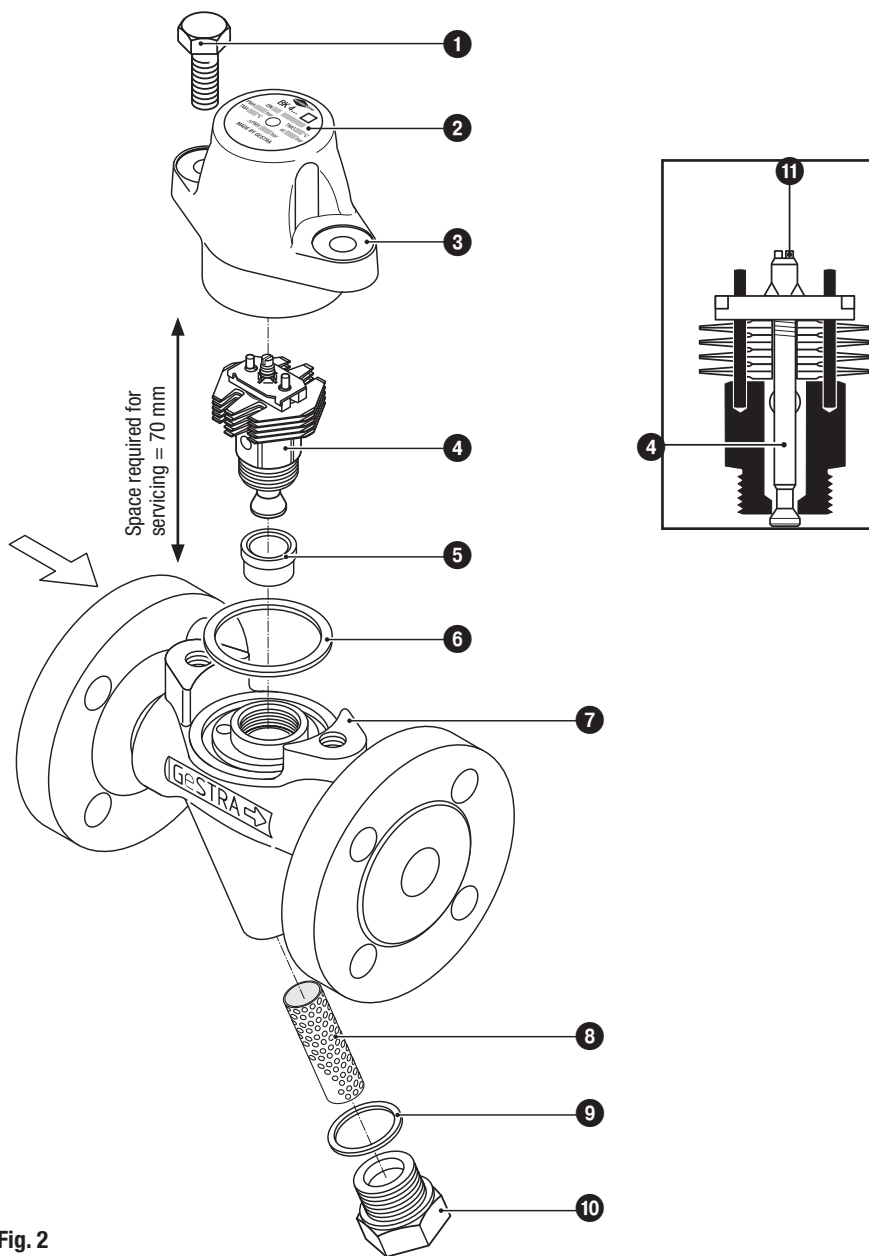

Fig. 2
1. Unscrew body screws **1** and remove cover **3** from body **7**. **Fig. 2**
1. Unscrew body screws ❶ and remove cover ❸ from body ❷. **Fig. 2**
2. Wait until regulator ❹ is cooled down to ambient temperature.
2. Unscrew and clean Thermovit regulator ❹.
3. Discard and replace Thermovit regulator ❹ in case of visible signs of wear or damage (see table **List of Spare Parts**).
7. Gasket ❷ **must** be discarded and replaced if there are visible signs of damage. Use the same cover ❸. Always discard and replace gasket ❷ when using a new cover ❸ or the cover of another steam trap (see table **List of Spare Parts**).
8. Put cover onto body. Tighten body screws ❶ alternately and in several steps with the torque indicated in the table **Tightening Torque**.
1. Unscrew sealing plug ⑩ and strainer ⑧. **Fig. 2**
4. Discard and replace gasket ⑨ if damaged (see table **List of Spare Parts**).
6. Unscrew sealing plug ⑩ with gasket ⑨ and strainer ⑧. Screw in sealing plug and tighten it with the torque indicated in the table **Tightening Torques**.